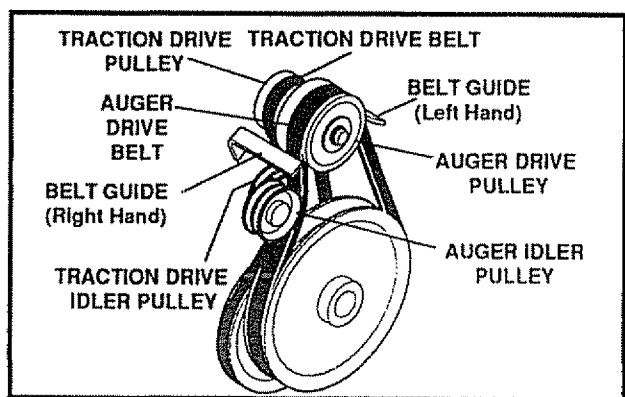

FIG. 28
- Loosen the belt guides (See Fig. 28) and pull away from the engine drive pulley
- Loosen the nut on the auger idler pulley (See Fig. 28) and pull idler pulley away from the belt
TRACTION DRIVE BELT (See Fig. 28)